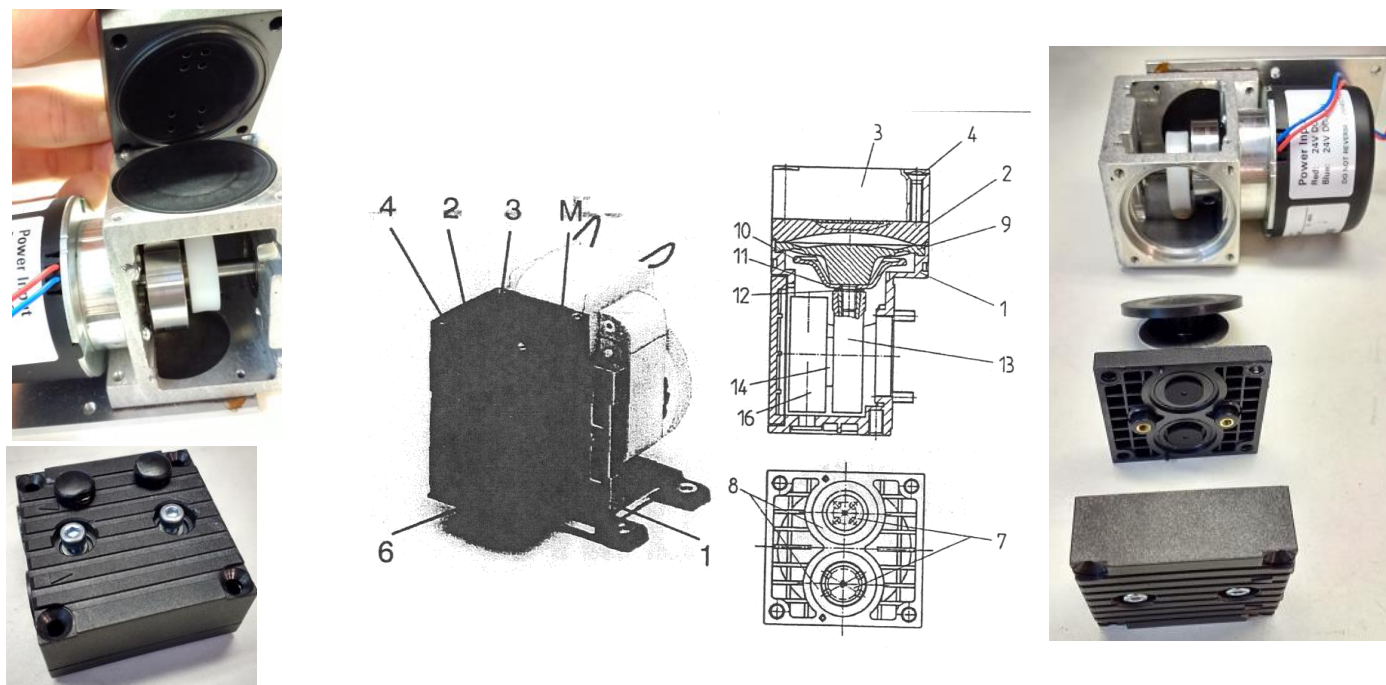

Figure 16: Pump Head Removal
4. Remove the pump head by (Figure 16: Pump Head Removal):
- d. Making a mark (M) on the head plate (3), intermediate plate (2), and housing (1) with a felt-tip pen.
- e. Undoing the 4 screws (4) in the head plate and lifting the head plate, with the intermediate plate, lift off the pump housing.
- *DC motors (no cooling fan):* Removing the cover (6) from the pump housing (1) by inserting a screwdriver into the slots on the sides, and prying the cover off (with care the adhesive gasket between cover and housing may be reused).
- *No fan:* Reference is made to turning or holding the cooling fan, the necessary operations must be carried out by turning or holding the counterweight (16).
5. Change the diaphragm by (see Figure 16: Pump Head Removal):
- a. Turning the fan to bring the structured diaphragm (9) to top dead center.
- f. Taking the disc spring (12), diaphragm spacer(s) (11), and diaphragm support (10) off the threaded portion of the diaphragm and retaining them.
- h. Turning the fan until the connecting rod (13) is at top dead center.
6. Change the valve plates by (see Figure 16: Pump Head Removal):
- a. Separating the head plate (3) from the intermediate plate (2).
- b. Removing the valve plates (7) and sealing rings (8) from the intermediate plate.
7. Refit the pump heads by (see Figure 16: Pump Head Removal):
- b. Placing the intermediate plate (2), with valve plates (7), sealing rings (8), and head plate (3) on the housing, in the position indicated by the (M).
- d. Gently tightening the screws (4), evenly and diagonally.
- g. Tightening the screws (4).
- h. *For DC versions (no cooling fan):* Reattaching the cover (6) to housing (1).